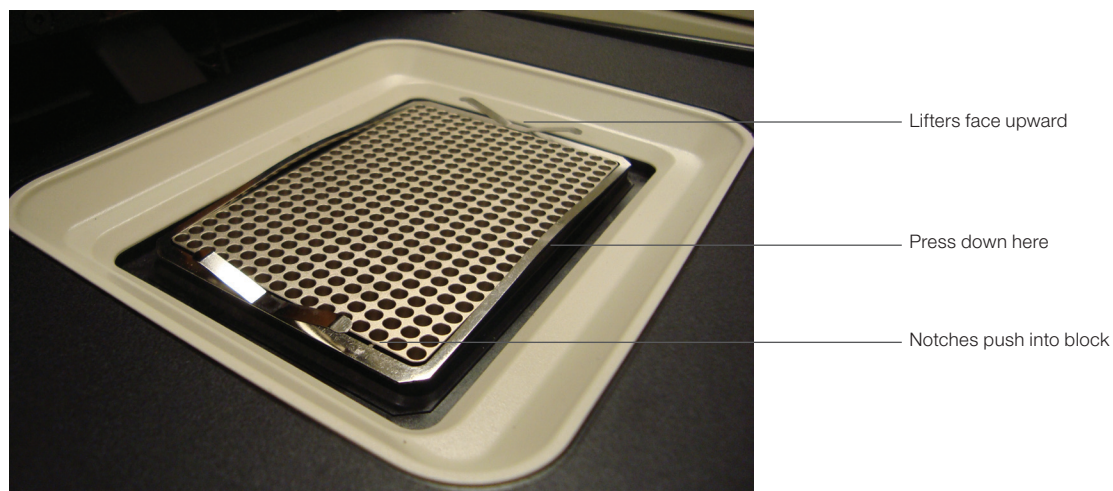

Fig. 5. Plate lifter for 384-well CFX Systems.
3. Install the plate lifter (Figure 5) in all 384-well CFX Systems configured with the plate handler. The plate lifter aids in the removal of 384-well plates by gently lifting the plate slightly out of the reaction block when the heated lid is opened.
- Place the plate lifter around the outside of the 384-well block, with the lifters facing up (Figure 5)